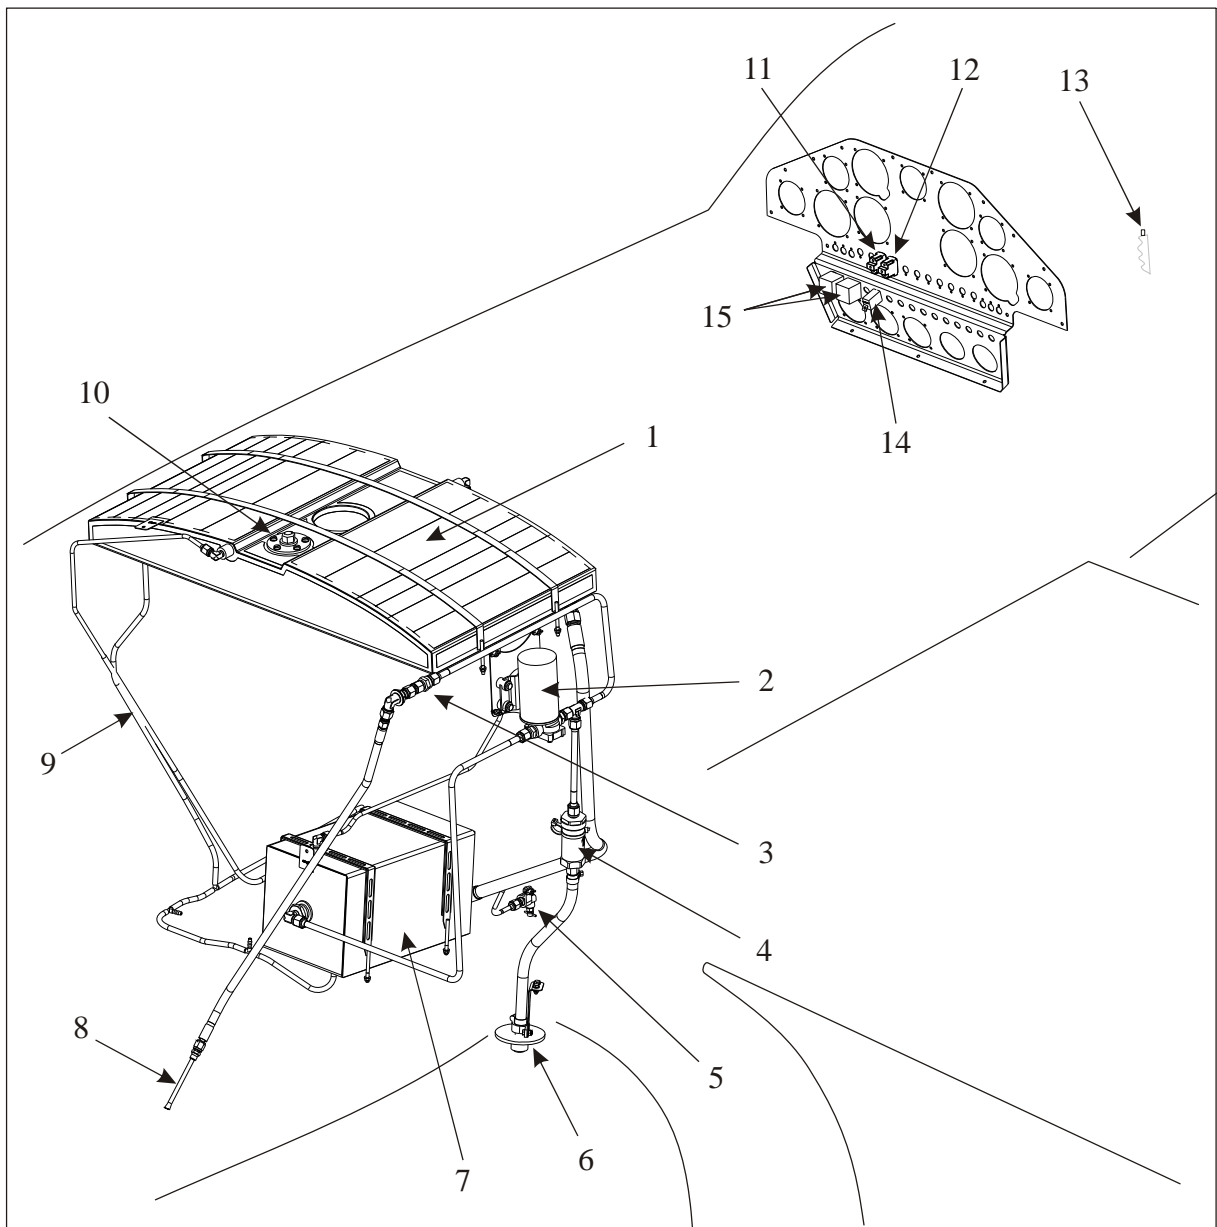

Figure 1
Refer to figure 1. The smoke oil is stored in both the smoke oil main (1) and acro tank (7). The tanks are provided with ventilation lines (9) for adequate venting. The tanks are filled by a pump (2) (reversed polarity) through a quick connector (6) located in the aircraft bottom fuselage cover. This line includes a filter (4) to prevent dirt to enter the smoke system.